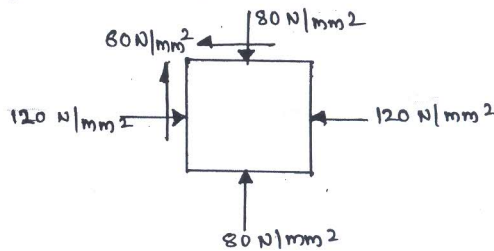

Fig. Q3
- 3 The state of stress in a two dimensionally stressed body is as shown in Fig. Q3. Determine the Principal planes, Principal stress, Maximum shear stress and their planes Analytically and Validate answer by graphically (using Mohr's circle).    (20 Marks)